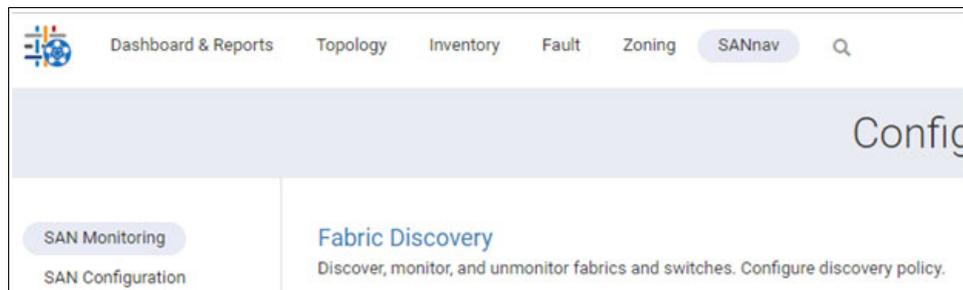

Figure 4-8 Fabric Discovery
1. Click **SANnav** in the navigation bar, and then select **SAN Monitoring Fabric Discovery**, as shown in Figure 4-8.